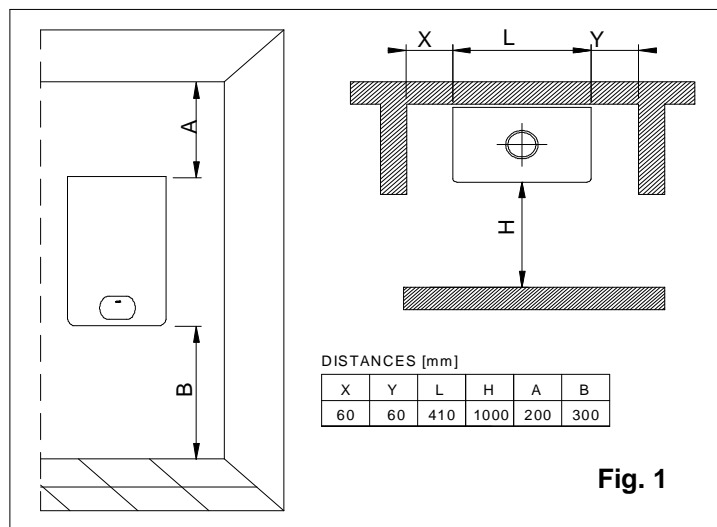

Fig. 1
A. Place the packed appliance on the floor (see fig. 1) making sure that the "up" arrow is facing down. Remove the staples and open out the four flaps of the box.
In order to allow access to the interior of the boiler for maintenance purposes, it is important that the necessary clearances indicated in figure 1 are respected. To make the installation easier, the boiler is supplied with a template to enable the pipe connections to be positioned prior to fixing the appliance to the wall.